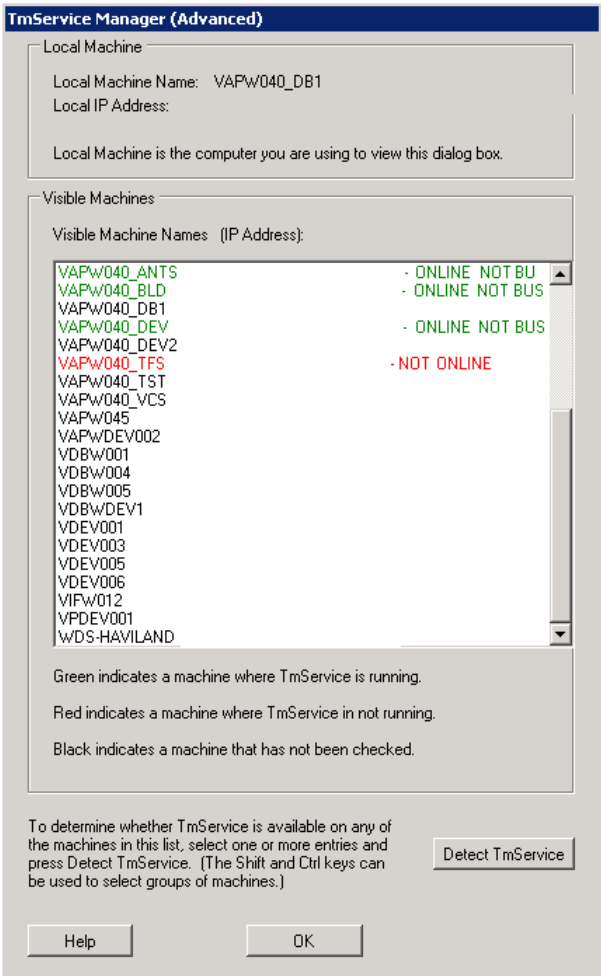

Figure 7-4 TmService Manager (Advanced) Dialog Box
5. Click *Advanced* to open the *TmService Manager (Advanced)* dialog box (Figure 7-4). The *Visible Machines* list displays computers and their IP addresses that are accessible to the local machine over the network.